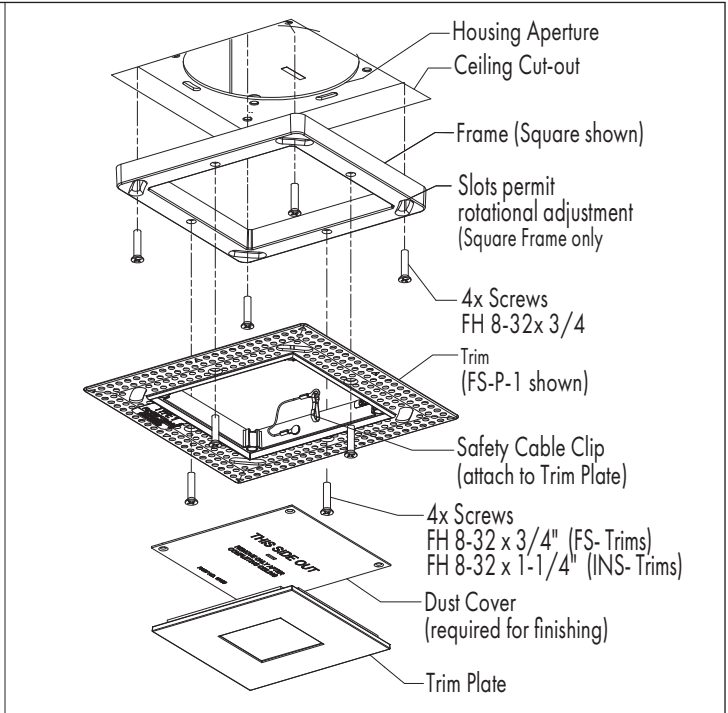

FIG 3.2 Frame & Trim Installation (for Single & Multi-Lamp)
Note: Black frame (round or square) can be installed before or after ceiling board installation-**FIG 3.2**.
STEP 6 Install Dust Covers-**FIG 3.2 & 3.4**.